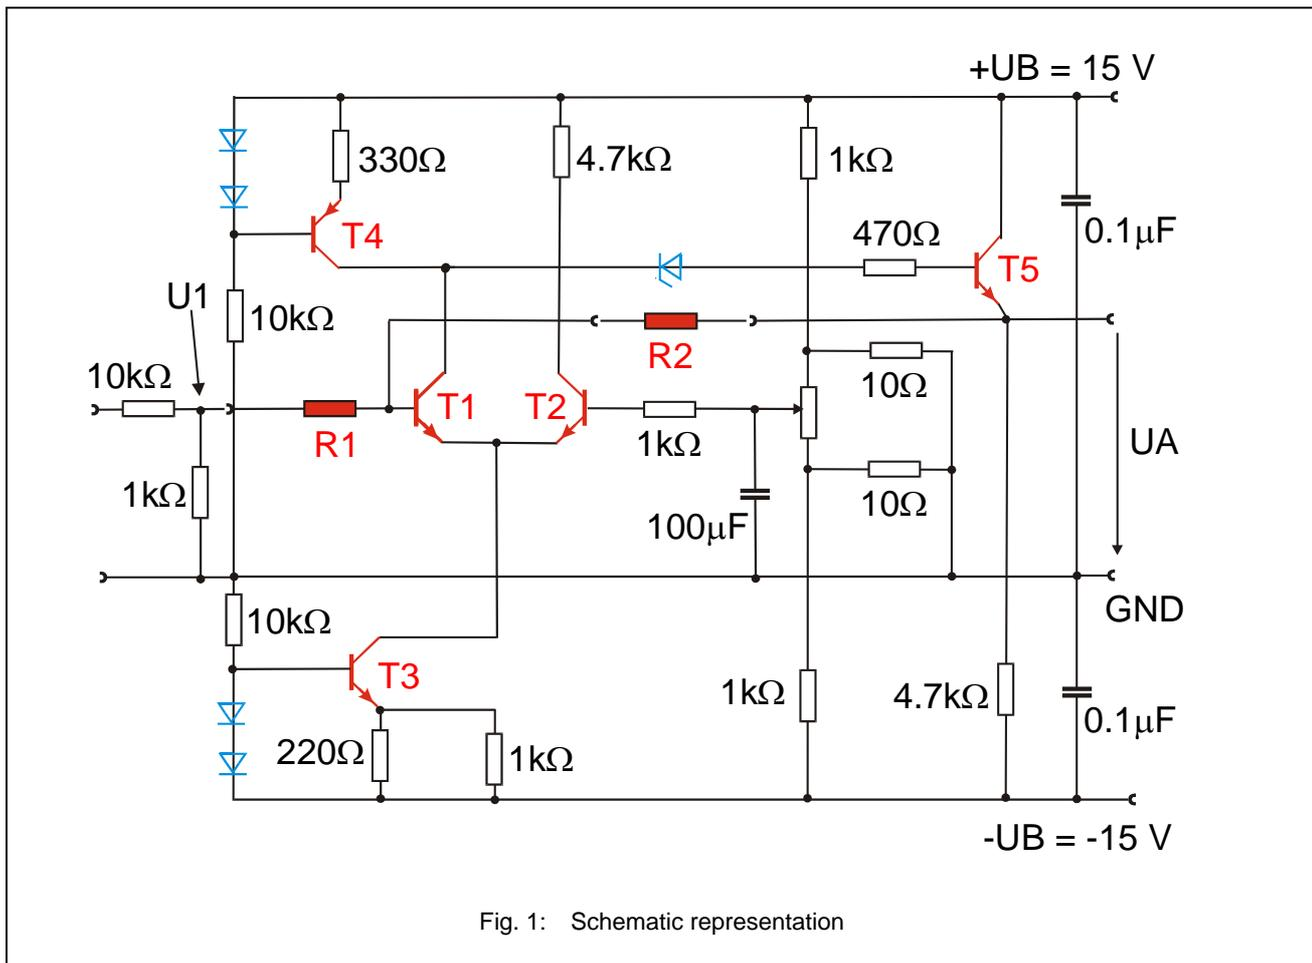
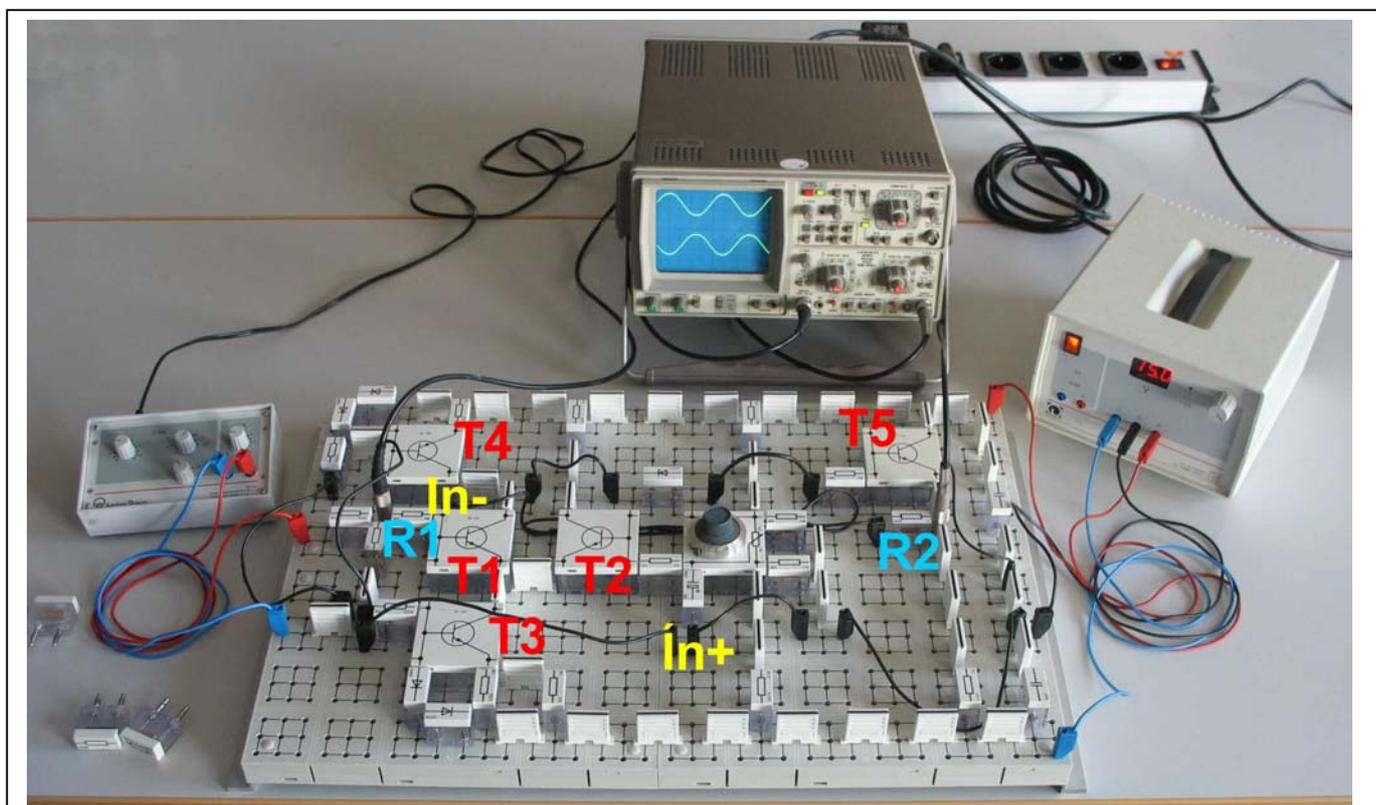
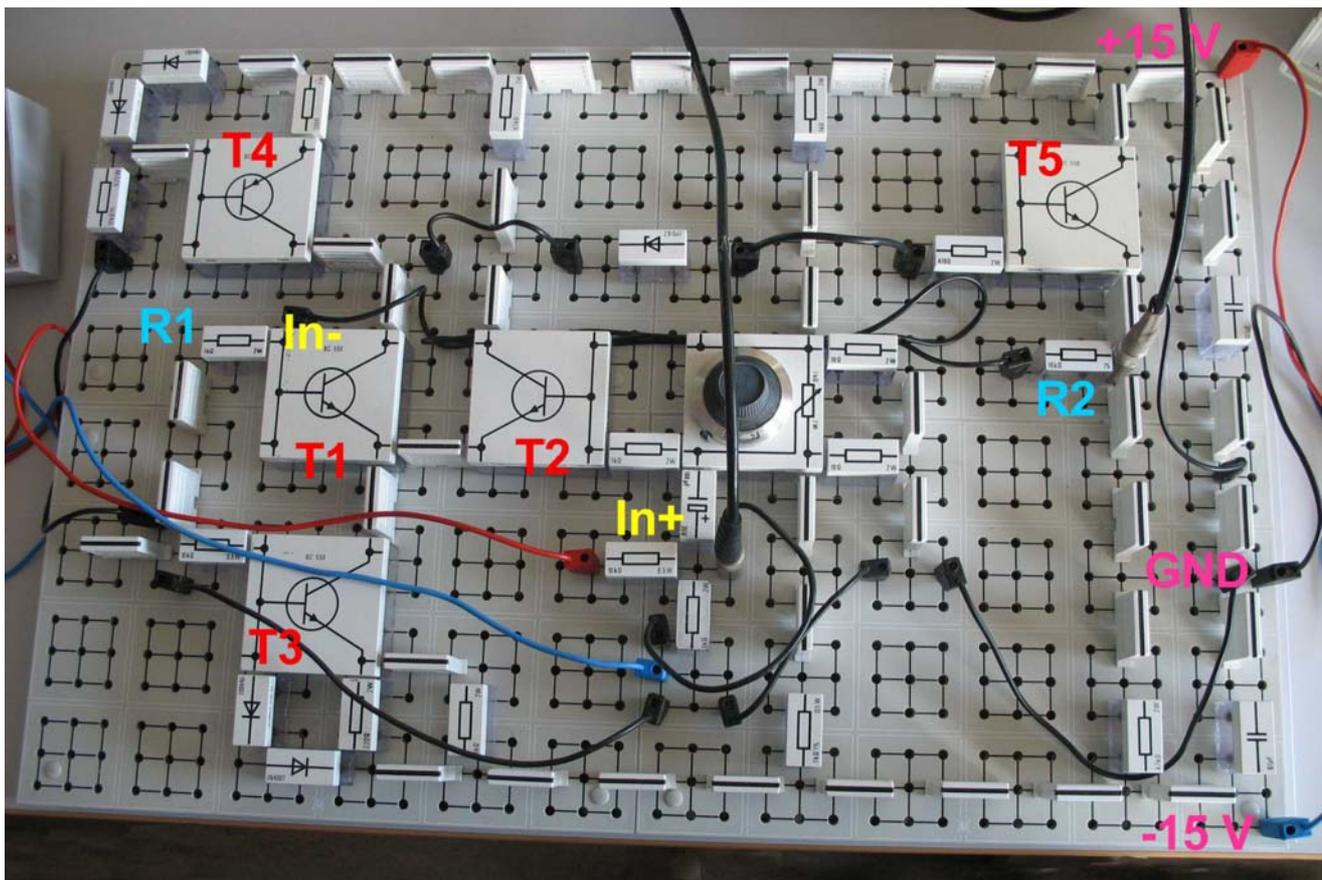

Fig. 1: Schematic representation
Fig. 2: Experimental setup of the operational amplifier for the inverting case (for wiring diagram see Fig. 1).
Fig. 3: Experimental setup of the operational amplifier for the non-inverting case (compare Fig. 2 for the setup of the inverting case).
The circuit of the setup is shown in Fig 1, R1 and R2 set the total gain as already discussed. The remainder is the Operational amplifier circuit, trying to have infinite gain.
The wiring diagram of the operational amplifier for the inverting operation is shown in Fig. 1 schematically. The corresponding experimental setup is shown in Fig. 2.
Both types of operational amplifiers can be set up. The changes to be made for the non-inverting case are shown in Fig. 3.
Apply a voltage  $U_B$  of +15 V to the circuit as shown in Fig. 2. Set the of the function generator settings as: frequency approx.  $f \sim 1$  kHz, wave form: sine signal, amplitude:  $\sim 1$  V.
- Change the operational amplifier circuit of the inverting setup to the non-inverting case as shown in Fig. 3.
Table 3 and table 4 compare the measured voltage amplification with the theoretical values according equation (I) or (II). Depending on the experimental setup of the operational amplifier (i.e. Fig. 2 or Fig. 3) the input signal is amplified according to the used resistor combination. As can be seen from Fig. 4 and Fig. 5 the input signal is either in-phase or inverted with the output signal both for the inverting and the non-inverting setup.